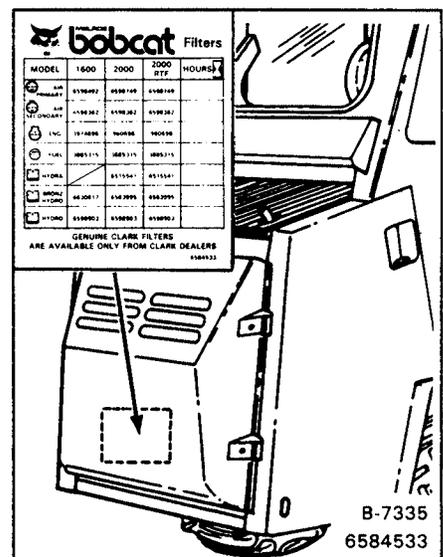

Fig. 1-9 Filter Decal
(8) Record the operating hours of the loader on the decal (Fig. 1-9, Item 1).
(3) The cap must be clean before it is installed on the fuel tank and tightened (Fig. 1-9, Item 1).
- (8) Record the operating hours of the loader on the filter decal (Fig. 1-9).